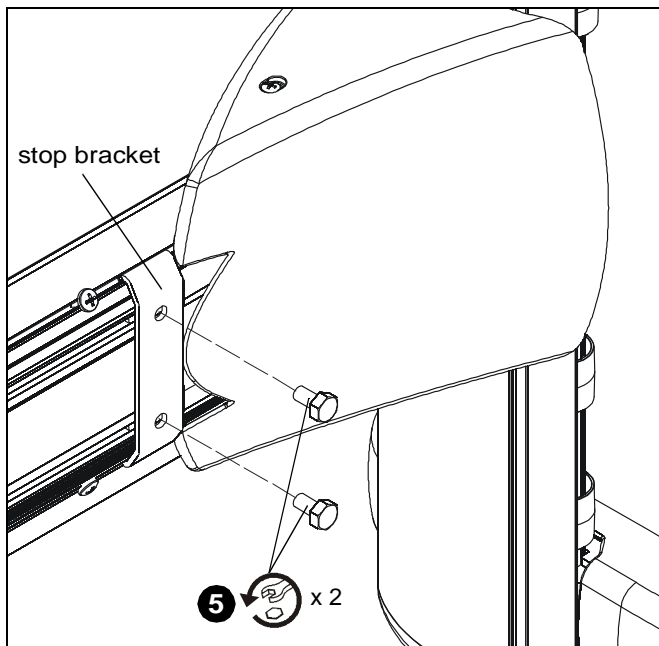

Figure 44
5. Remove two bolts holding stop bracket in place on underside of short throw projector mount. (See Figure 44)